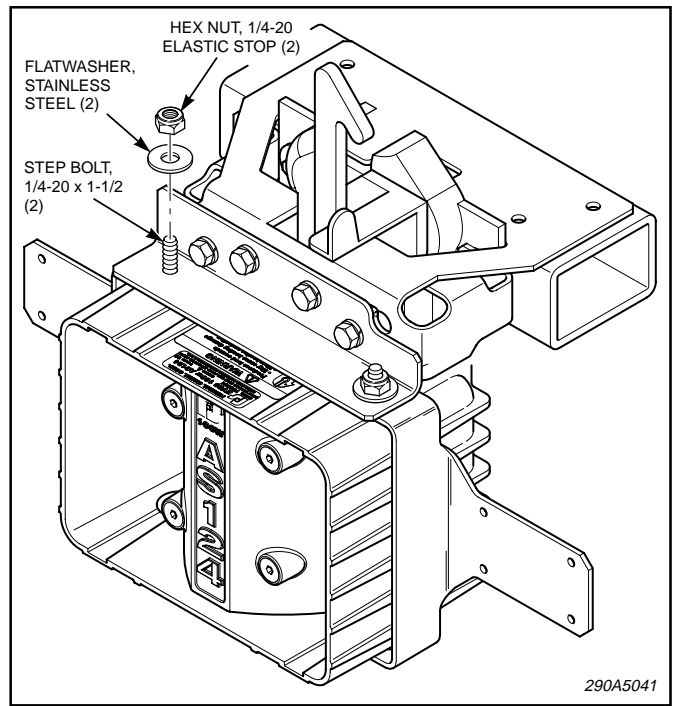

Figure 6.
5. See figure 6. Mount the speaker/Cuda TriOptic bracket assembly to the front bracket using the 1/4-20 step bolts and hardware supplied with the speaker.